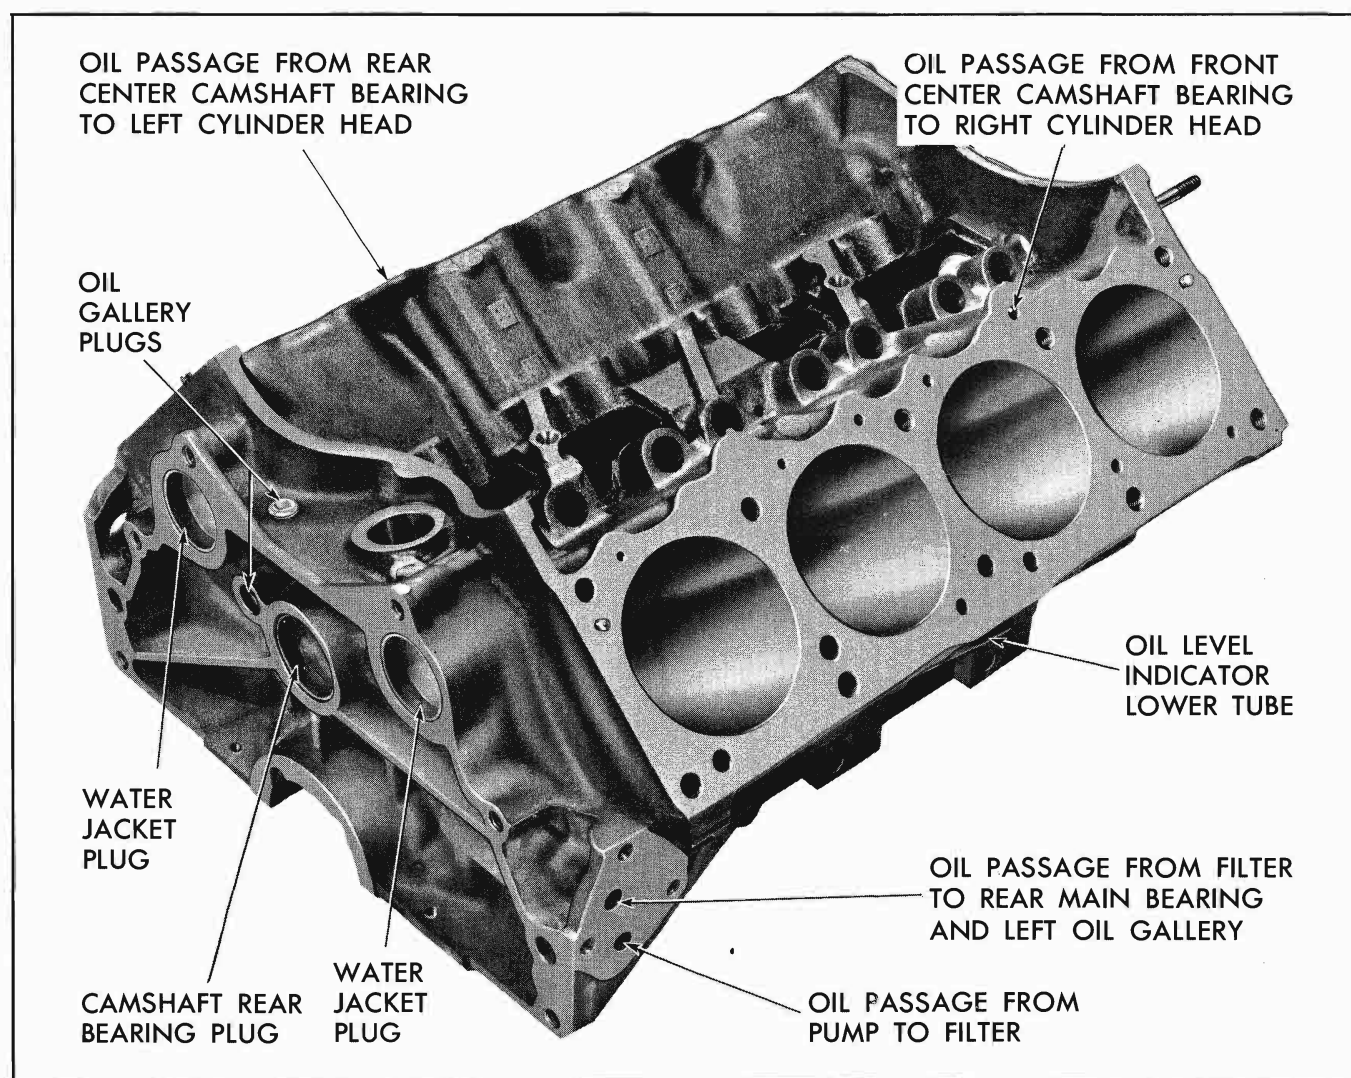
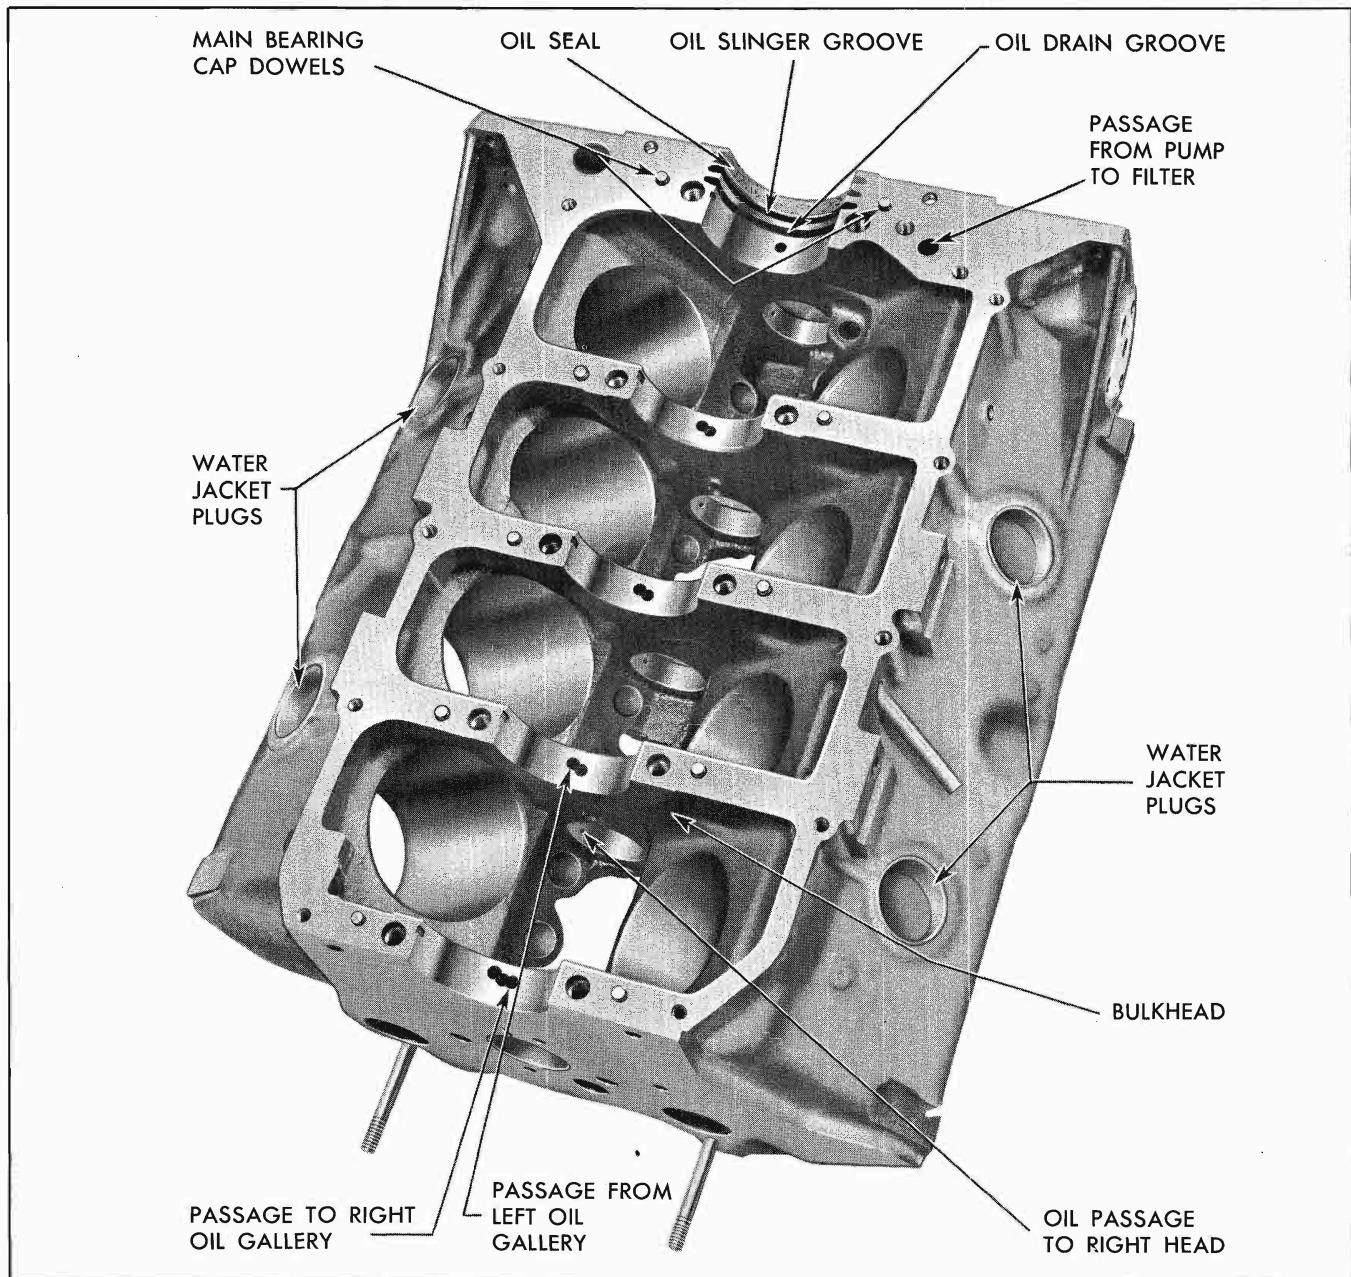

Fig. 6-78 Cylinder Block—View from Right Rear
Fig. 6-79 Cylinder Block—View from Bottom
NOTE: The oil passages (Fig. 6-78) in the block which supply oil from the front center and rear center camshaft bearings to the right and left cylinder heads respectively are considerably larger than the oil holes in the camshaft bearings (Fig. 6-79). Due to this fact, sludge may collect in the passages above these bearings and may subsequently be forced into the oil galleries of the cylinder head, causing possible restriction of oil passages in the rocker arm studs. For this reason these passages should be thoroughly cleaned and inspected.
a. With cylinder block inverted, use pen light to see that passage from oil pump to filter is open (Fig. 6-79).
b. Check passage from filter outlet to rear main bearing by inserting wire in oil filter outlet passage and using pen light to see that wire is visible in passage to rear main bearing (Fig. 6-78).
c. Visually check passage from each main bearing to corresponding camshaft bearing (Fig. 6-79).
from front center camshaft bearing to right cylinder head (Fig. 6-78).